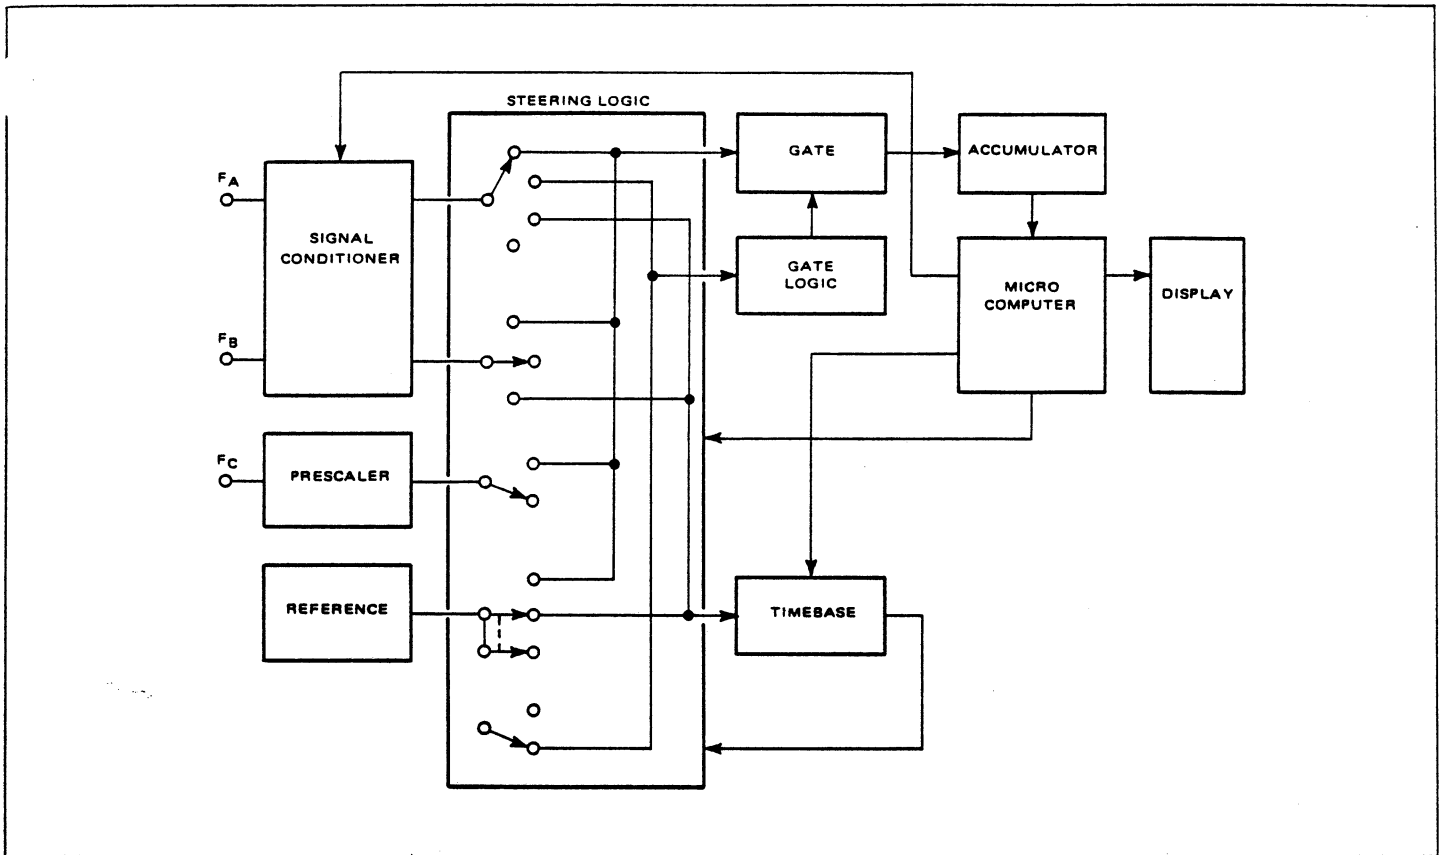

Figure 1.3 - Series 9000A Block Diagram
1.4.1 The Series 9000A shown in simplified form in figure 1.3, consists of the following functional blocks: Signal Conditioning circuitry that scales, generates a squared wave output from the input signal, and selects the points on the incoming signal that determine the characteristics of the squared wave output; a stable and accurate 100 MHz reference frequency; an adjustable timebase that allows the signal applied to it to be divided by 1, 10, or some multiple of 10; gate logic that converts a signal input into a corresponding time period; a gate (controlled by the gate logic) that regulates the flow of pulses to the accumulator; an accumulator that counts a signal applied to it and stores the binary value of the count; a microcomputer that controls the operation of the counter, performs any programmed arithmetic operations, and routes the data in the accumulator to the display; the display that provides in visual form the numeric value of the binary data stored in the accumulator as well as the status of the timebase, signal conditioners and other instrument operations.